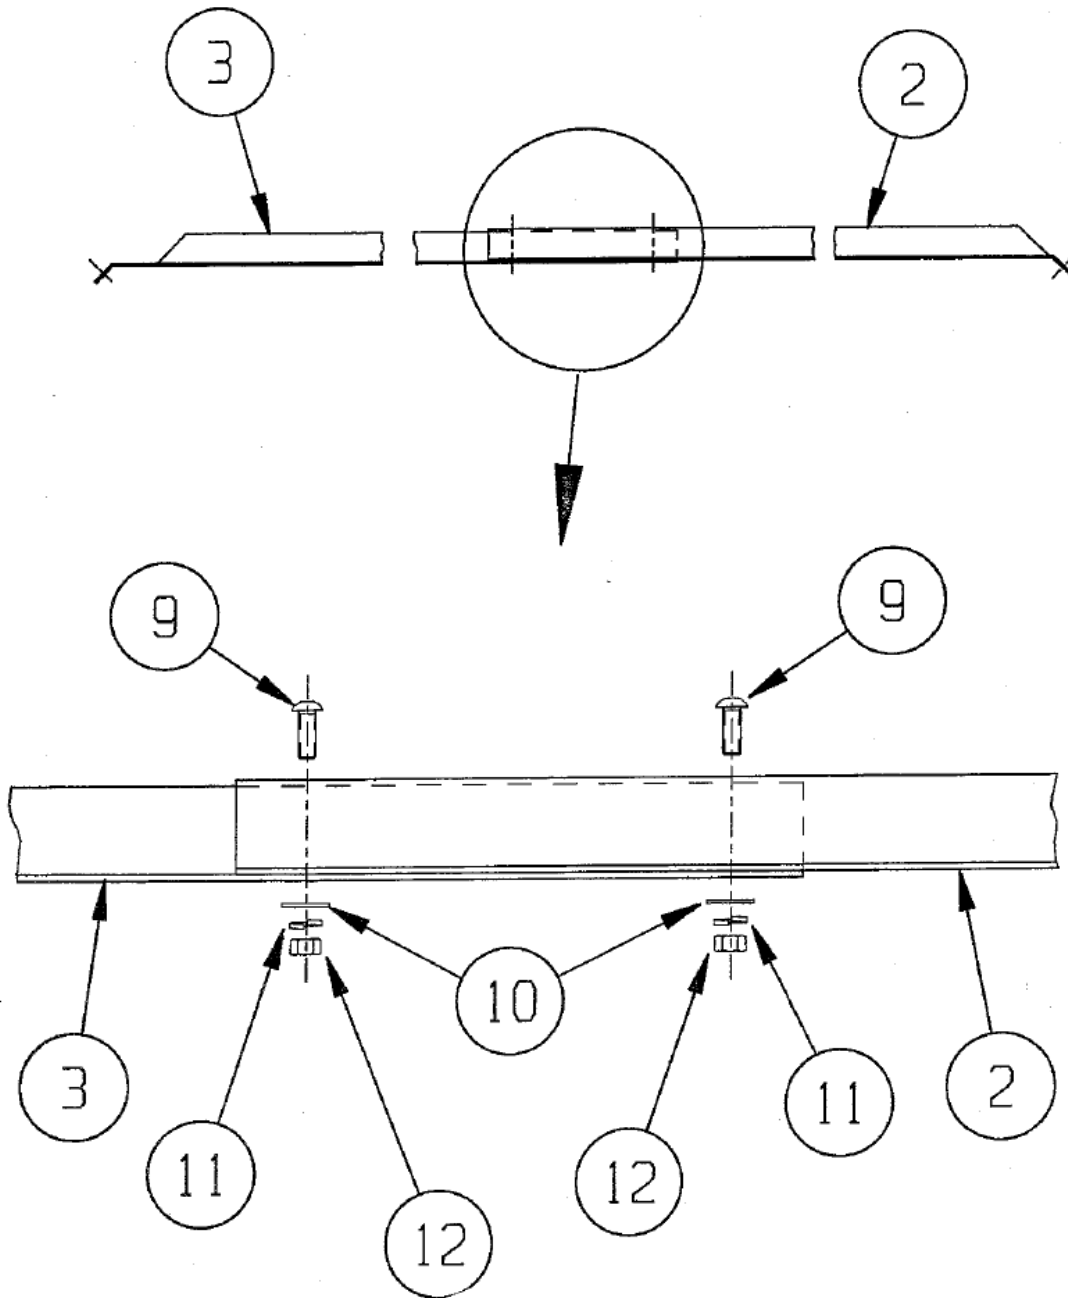

Figure 2
- STEP 3:** Attach an outer base angle - Type A (item #2) to an outer base angle - type B (item #3) by overlapping the ends of the two angles as shown in Figure 2 and securing with (2) 3/8" X 1.50" carriage bolts, flatwashers, lockwashers, and hex nuts (items 9,10,11, &12). Tighten securely. Repeat for the remaining parts so that there are 4 assembled outer angle.